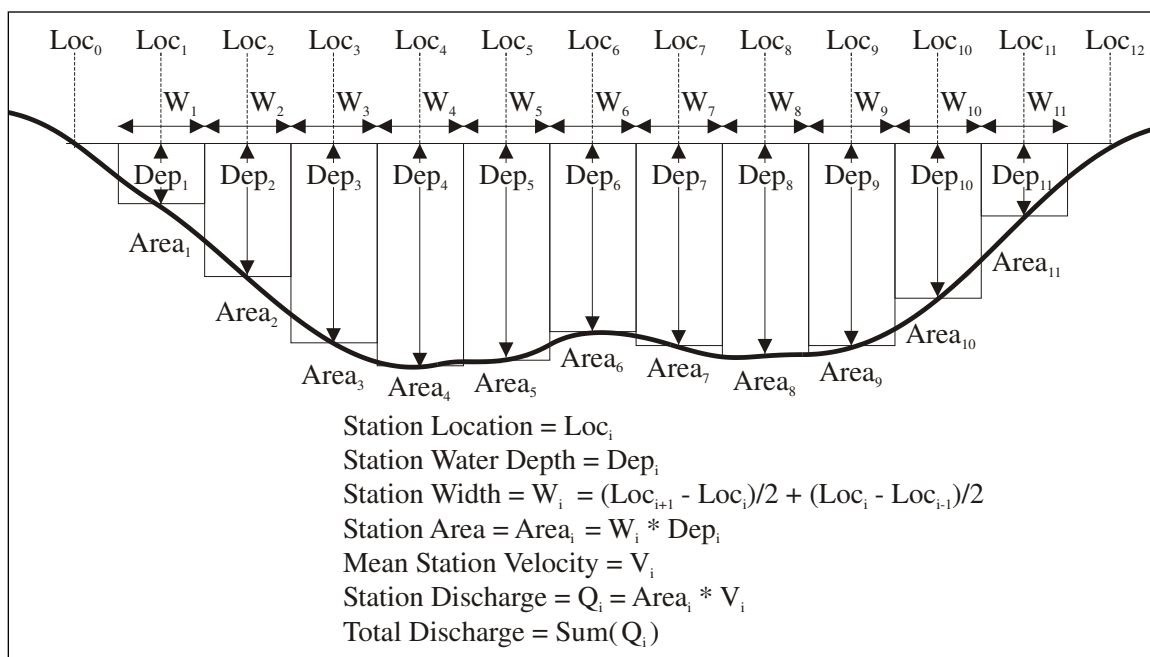

Figure 108. Basic River Discharge Measurement Method
- At the end of the averaging time for the measurement, the discharge is calculated using the formula shown in **Figure 108**.